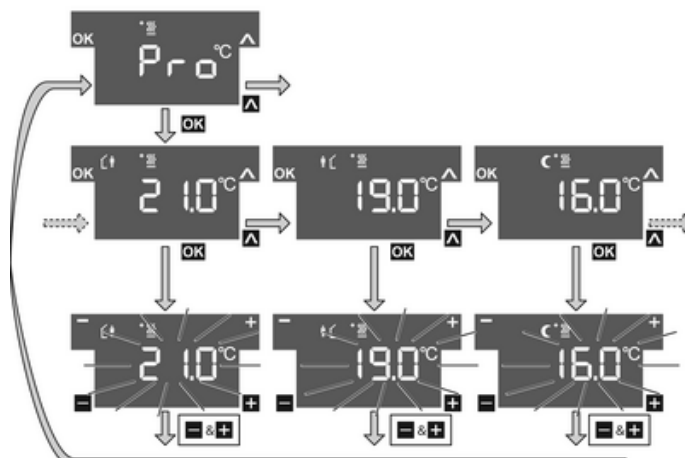

Figure 7
- Press the sensor button **▲** to select the menu item **Pro** for Heating mode °C or Cooling mode °C and press the sensor button **OK** (Figure 7).